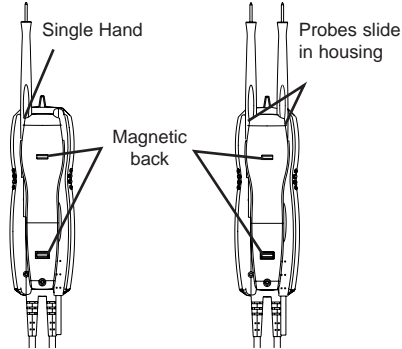

Fig. 1
- 4) This meter is designed with probe holders and magnets to allow for maximum versatility and single hand testing. Refer to the drawings in Fig. 1 for common setups.